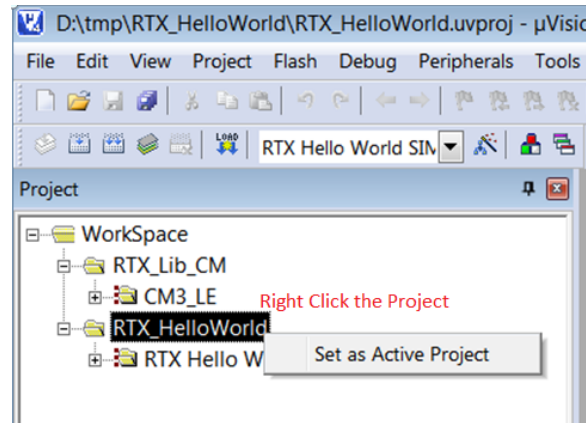

Figure 2.24: Keil IDE: Set an Active Project
1. Activate the RTX_HelloWorld project by highlighting the project name and right click. Then click the Set as Active Project (see Figure 2.24).